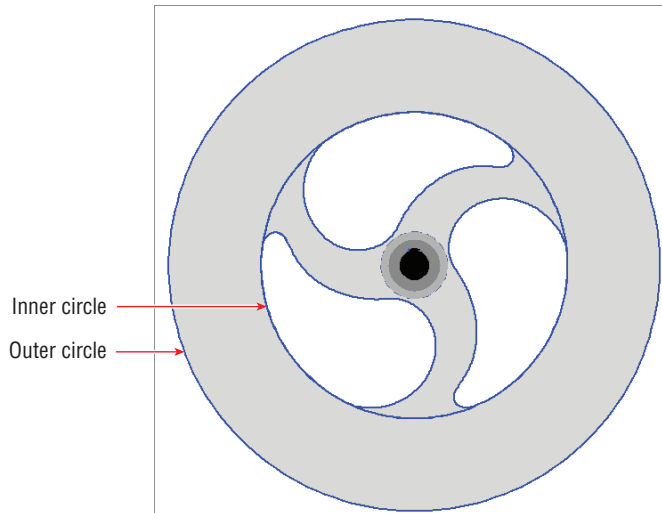

FIGURE 8.9 Hatching the outer portion of the rotor by selecting objects
4. Type **H** (for Hatch), and press Enter. Click the Select Boundary Objects tool in the Boundaries panel of the ribbon's Hatch Editor tab. Select the circle making up the inner circle of the rotor, and then select the single outer circle. Select Solid in the Pattern panel and press Enter. The hatch appears correctly (see Figure 8.9); click the Close Hatch Editor icon in the Close panel at the extreme right edge of the Hatch Editor tab.